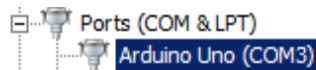

Figure 5: After installation, the Arduino is listed in the Device Manager.
6. After the installation has finished successfully, the Arduino is listed in the Device Manager, including the (virtual) COM-port it is connected to (e.g. COM3, Figure 5). It is advised to keep a (mental) note of this port, as it will be used later in the VeloTrack software.
1. *Port-selection list*: select the port to which the module is connected. This port-number corresponds to the one that was listed in the Device Manager (Figure 5).